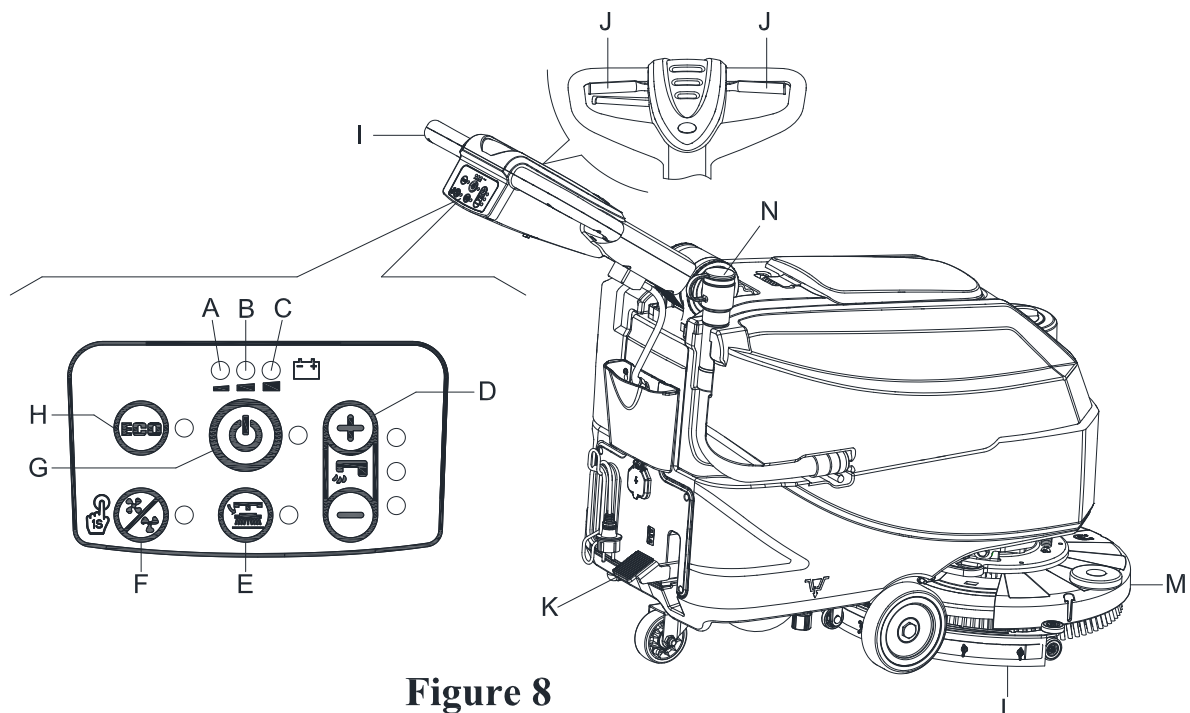
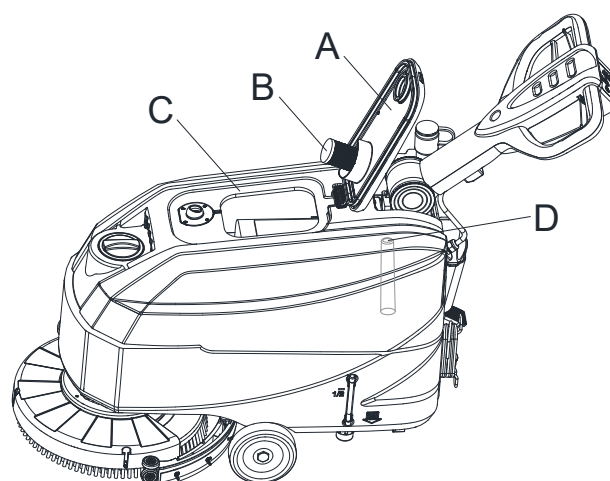

Figure 8
Figure 10
2. Push the machine to the area to be cleaned, by pushing it with the hands on the handlebar (I, Figure 8).
3. Lower the brush/pad-holder deck (M, Figure 8) and the squeegee (L) by lifting the pedal (K).
4. Press the start switch (G, Figure 8). Check that the green warning light (C) turns on (charged battery). If the yellow (B) or red warning light (A) turns on, Shutoff the power switch (G, Figure 8) and charge the batteries (see the procedure in Maintenance chapter).
5. Press the washing water flow control switches (D, Figure 8) as necessary, depending on the type of cleaning to be performed.
6. Start cleaning by pushing the machine with the hands on the handlebar (I) and pressing the safety switch lever (J).
To move the machine forward, press either the left or right safety switch lever (J, Figure 8) or both.
2. While keeping both hands on the handlebar press the safety switch lever (J, Figure 8), then manoeuvre the machine and start scrubbing/drying the floor.
While the green warning light (C, Figure 8) stays on, the batteries allow the machine to work normally. When the green warning light (C) turns off, and the yellow warning light (B) turns on, it is advisable to charge the batteries, because the remaining charge will last for a few minutes (depending on battery characteristics and work to be performed). When the red warning light (A) turns on, batteries are fully discharged. After a few seconds, the brush/pad-holder is automatically tuned off.
An automatic float shut-off system (B, Figure 10) blocks the vacuum system when the recovery water tank (C) is full. The vacuum system deactivation is signaled by a sudden increase in the vacuum system motor noise frequency, also the floor has not dried.
If the vacuum system turns off accidentally (for example, when the float is activated because of a sudden machine movement), to resume the operation: turn off the vacuum system by pressing the switch (G, Figure 8), then open the cover (A, Figure 10) and check that the float inside the grid (B) has gone down to the water level. Then close the cover (A) and turn on the vacuum system by pressing the switch (G, Figure 8).
When the recovery water tank (C, Figure 10) is full, empty it according to the following procedure.
2. Lift the brush/pad-holder deck (M, Figure 8) and the squeegee (L) by pressing the pedal (K).
4. Empty the recovery water tank with the hose (N, Figure 8). Then, rinse the recovery tank (C, Figure 10) with clean water.
5. Remove the recovery tank lid (A, Figure 10) and clean the inside of the cover and the filter floater grid (B) with clean water.
6. Check the recovery tank (D, Figure 10) whether there is foreign body jam and clean it.